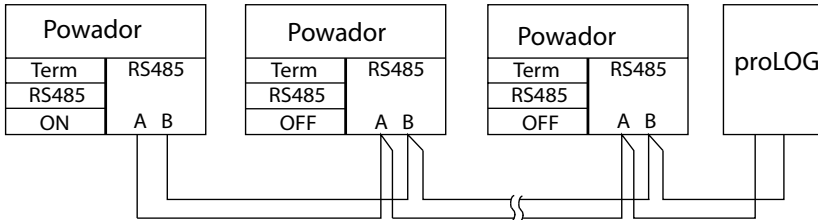

Figure 18: RS485 interface wiring diagram
- Wire B (+) with wire B (+) (see Figure 18 on page 29)